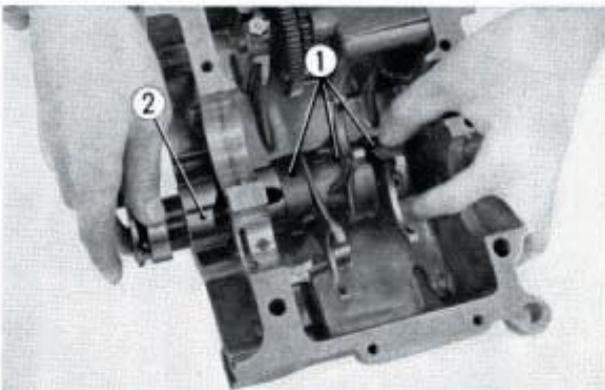

Fig. 126 ① Gear shift forks ② Gear shift drum
1. Set the left, right and center gear shift forks into the upper crankcase as shown in Fig. 126, then install the gear shift drum.